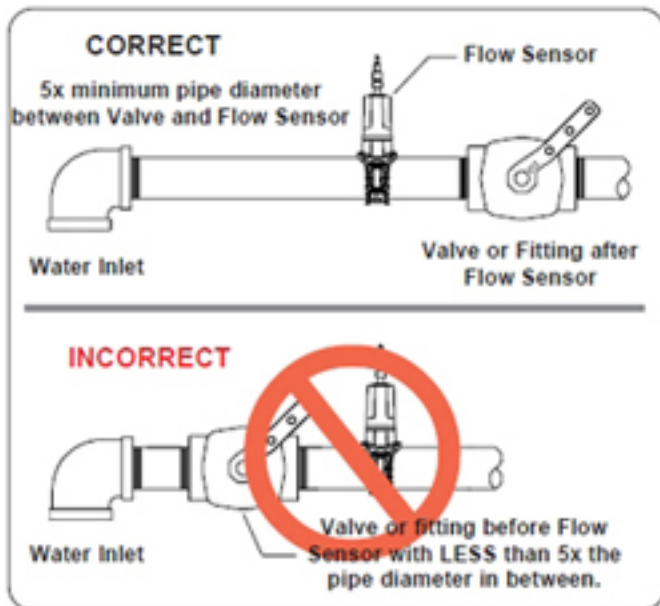

Figure 31: Flow Sensor Placement
1. A minimum of **6 times the pipe diameter** of straight run pipe without any fittings is necessary prior to the flow sensor paddle wheel (**Figure 31**).